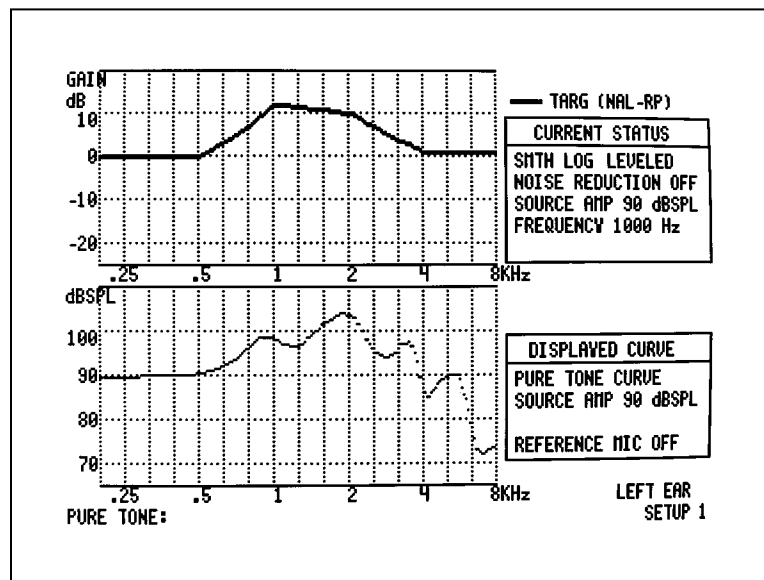

Figure 8.3.6.4—Output measurement in the insertion gain screen
8. Press [SWEEP/START] to run a pure-tone sweep at 90 dB SPL. Compare the output to the patient's UCL values measured (or converted) to dB SPL. See Figure 8.3.6.4.